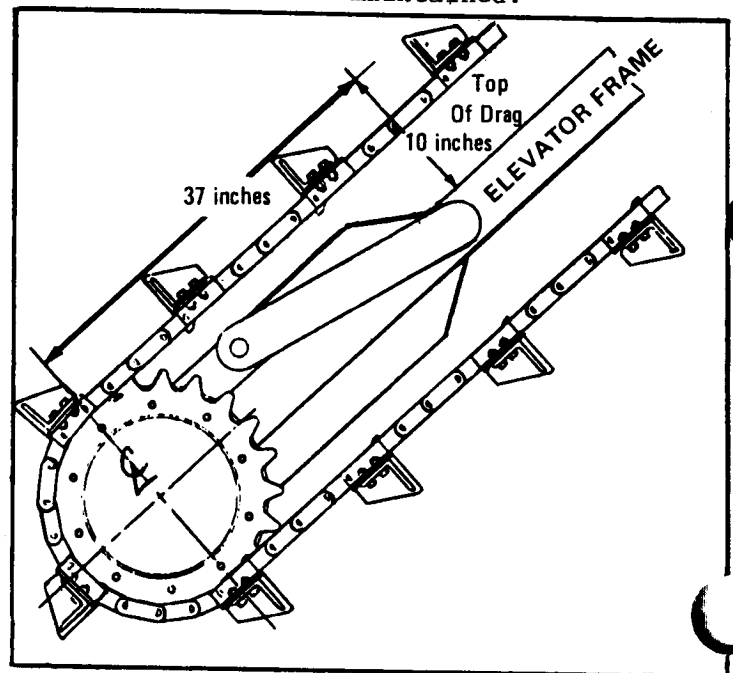

FIGURE 2
The chain tension on this unit should be set by measuring 10" up from the top of elevator frame to the top edge of drag. This measurement should be taken 37" up the frame from the centerline of the sprocket on the elevator drive axle. (See Fig. 2).
1. Loosen locking bolts and nuts (1), securing locking collar to idler.
2. Loosen locking nut (2) securing adjustment bolt (3) in position.
3. Tighten adjustment bolt (3), on each side, to achieve the 10" adjustment between the top edge of the drag and the top of the elevator frame (Fig. 2) secure with locking nut (2).
4. Secure locking bolts and nuts (1) to 235 ft/lbs torque lubed.
2. Loosen locking nuts and bolts (1), securing locking collar to idler. This assembly should be free to slide on the elevator frame.
3. Lubricate elevator adjustment bolt (3) threads and tighten on each side to achieve the 10" adjustment shown in Fig. 2.
6. Retorque adjustment bolts (3), until the 10" adjustment is reached.
8. Repeat items 6 and 7 until the 10" adjustment dimension is maintained.